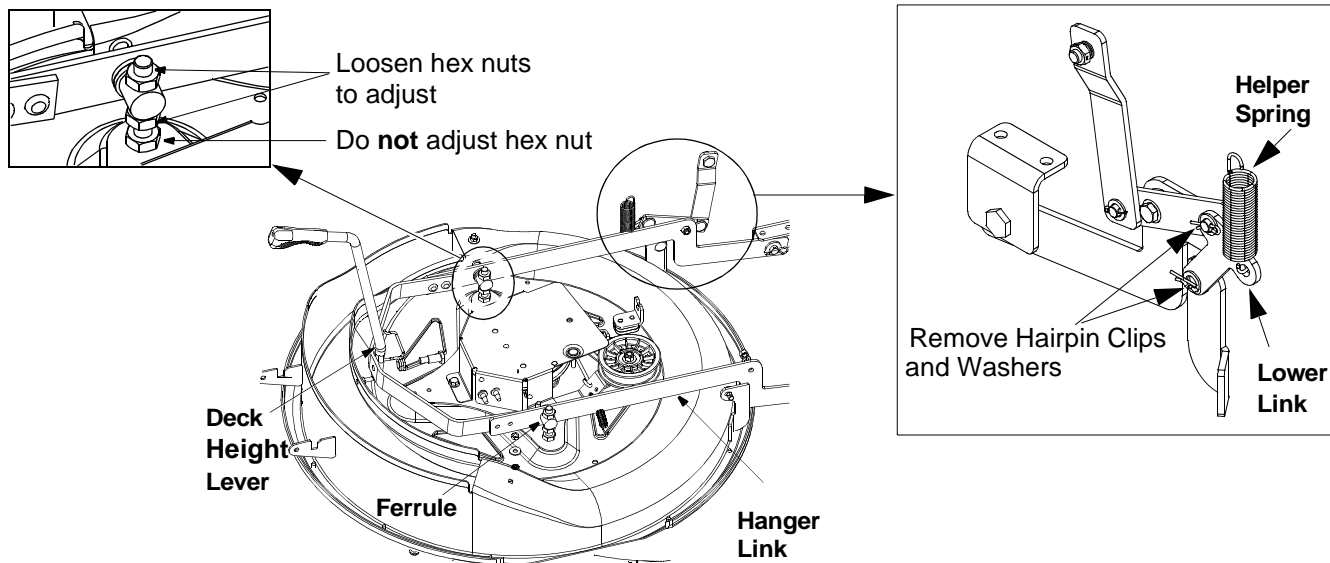

Figure 15
- Completely loosen, but do not remove, the top hex nut out of the three hex nuts that hold the hex bolt and the ferrule on the deck hanger link assembly. See Figure 15 .
- Reattach the lower links as shown in Figure 15 inset.
- Thread the middle nut up against the base of the ferrule. See Figure 15 .